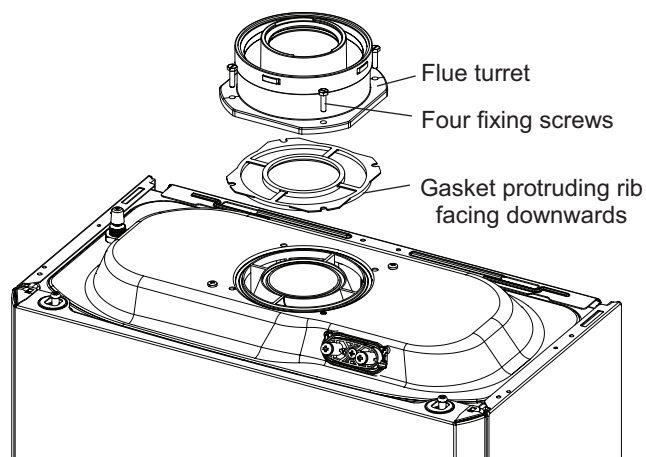

Fig. 5.5
5.6 FIT THE FLUE TURRET - Figs. 5.5 and 5.6
2. Place the flat concentric gasket onto the boiler, ensuring the protruding 60mm rib is facing downwards and located correctly. See Figs. 5.5 and 5.6.